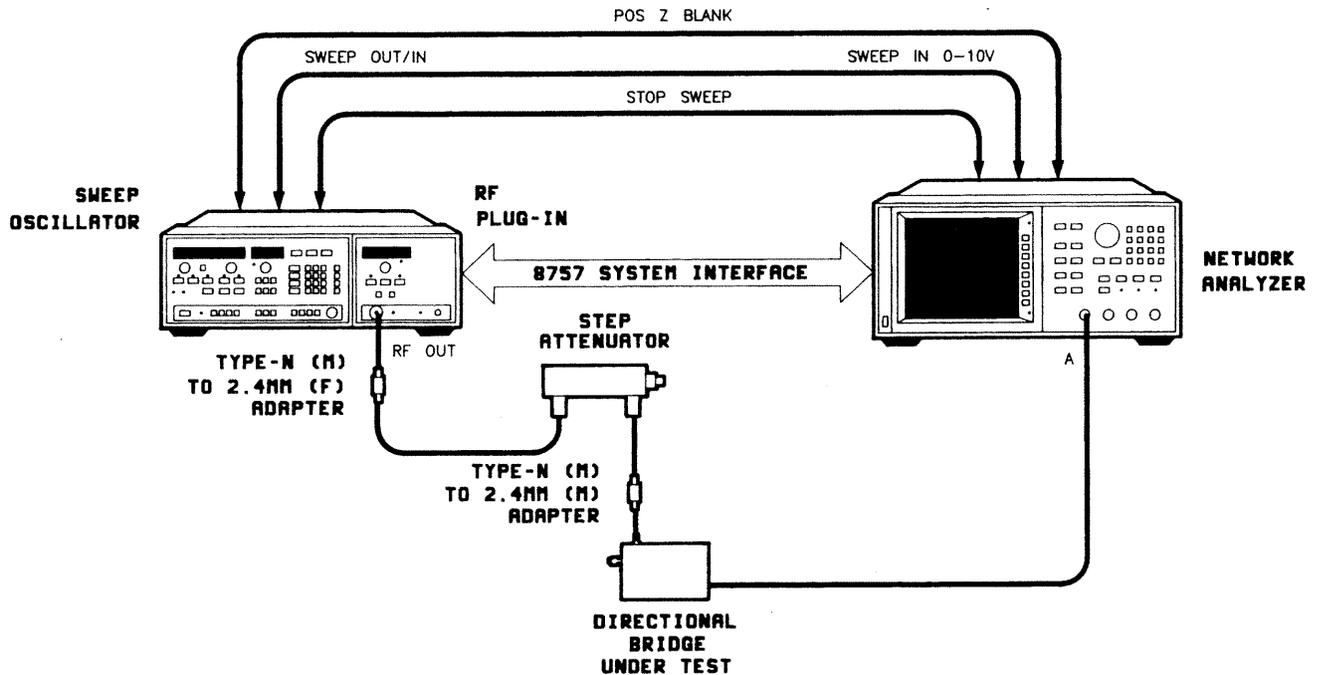

Figure 4-8. Dynamic Accuracy Test Setup
1. Connect the equipment as shown in Figure 4-8. Allow 30 minutes for warm-up. Set the configuration switch on the bridge to **HP 8757**. Press **[PRESET]** on the analyzer. Both the analyzer and the source will reset.